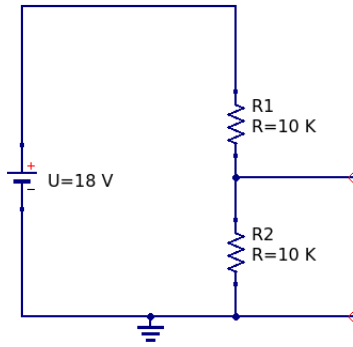

Figure 11: Voltage divider to be build
1. We will build the voltage divider shown in Figure 11.
2. Calculate Thevenin equivalent voltage, V_{open} for the circuit shown in Figure 11?
8. Build the voltage divider shown in Figure 11 with no load resistance connected.